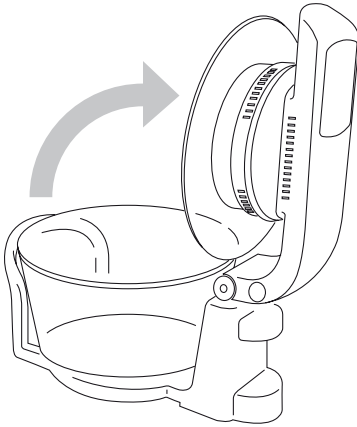

Fig.1
1. Open the lid and press expansion safety lock and hold at its release position (1), as illustrated in Fig.1 and 2.